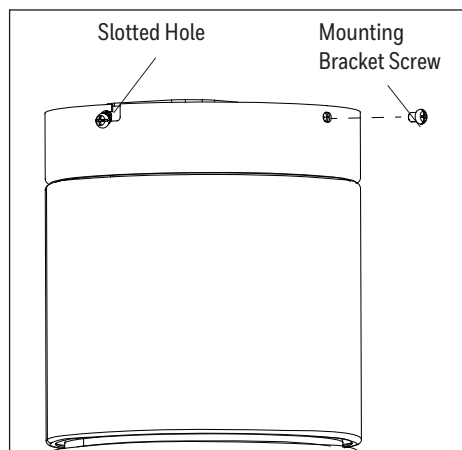

Figure 4.2
2. Slide the top of the motor assembly over the mounting bracket, aligning the slotted holes in the top of the motor assembly with the pre-loosened mounting bracket screws in the mounting bracket. Twist the motor assembly clockwise to lock. Then, re-insert the mounting bracket screws and securely tighten all screws (Figure 4.2).